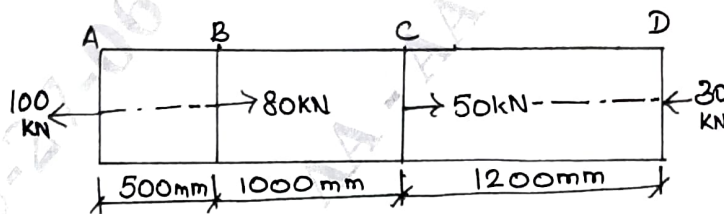

Fig Q1(b) (08 Marks)
- b. A brass bar, having cross-sectional area of 500 mm^2 is subjected to axial forces as shown in Fig Q1(b). Find the total elongation of the bar. Take $E = 80 \text{ GPa}$.